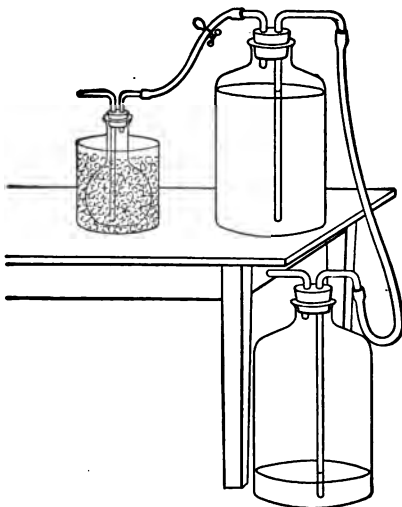

FIG. 43.
M. Quite easily. I close the neck of a small flask with a cork, through which pass an entry and exit tube (Fig. 43), and make a freezing-mixture with powdered ice and salt, in the proportion of 3 to 1, and surround the flask with it. Then I only need to draw air from the room through the flask for some time in order to collect a considerable quantity of water in the form of ice in the flask. If I let the flask warm up, of course I get water.